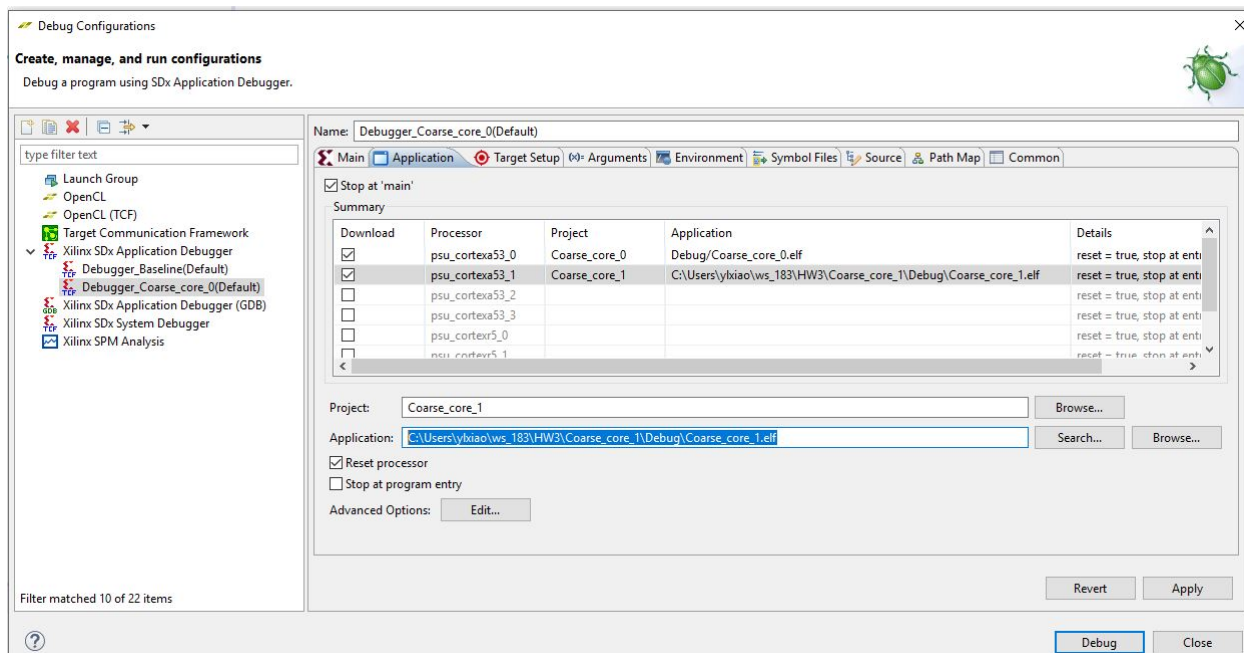

Figure 2: Debugger Configurations for 2 Cores
2. **Coarse-grain parallelism** We will parallelize the application by processing half of each picture on core 0 and the other half on core 1, a form of coarse-grain, data-level parallelism. There are two projects, `Coarse_core_0` and `Coarse_core_1` in the provided workspace that form the starting point of your implementation. We have parallelized `Scale` and some parts of `Filter` already for you. We use debug mode to run the 2 cores in parallel. Select *Run* → *Debug Configurations* from the menu. Configure `Debugger_Coarse_core_0(Default)` as Figure 2. In the *Application* tab, check `psu_cortexa53_1`, and choose the right ELF file for Core\_1. Click apply and Debug.